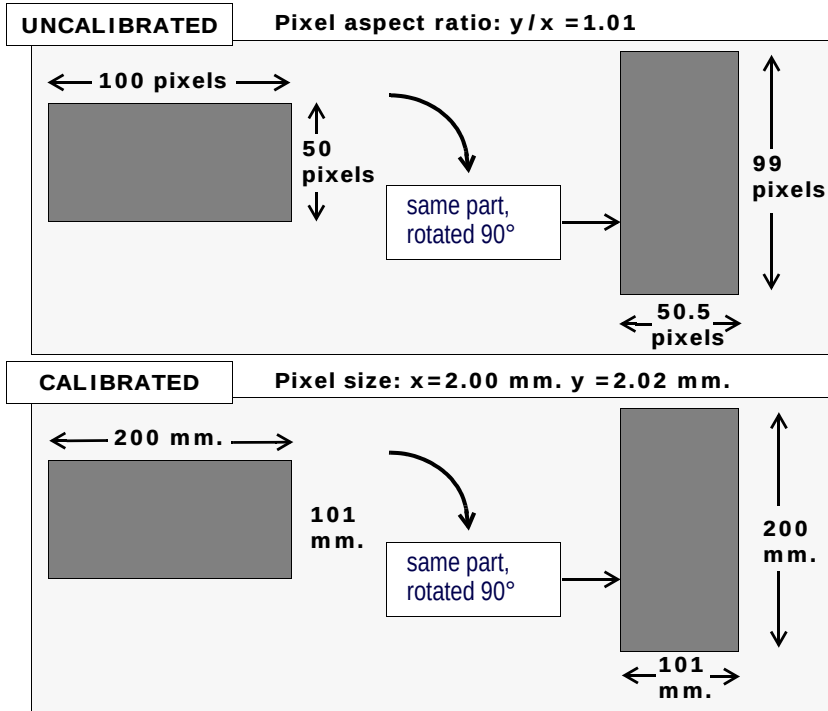

Figure 137 Calibration Required for Accuracy in Results
- The image used to build the Model, as well as the runtime images used to locate the part, should *always be calibrated*. This improves recognition robustness and location accuracy, especially when the parts to be located can be rotated or significantly translated. Figure 137 illustrates the case of an image in which the pixel ratio is not exactly 1:1, as is typically the case. In the given example, if the image is not calibrated, when a part is rotated to 90 degrees, it will be impossible to locate the part to better than 1 pixel in accuracy.